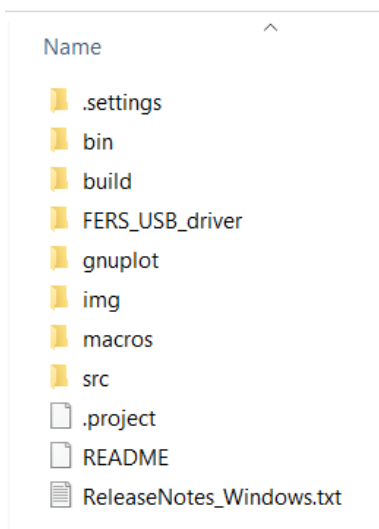

Fig. 10.14: View of the Janus software folder.
2. Extract the files and enter the "bin" folder (see Fig. 10.14) inside the Janus software folder.